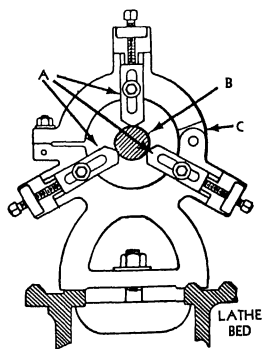

Figure 9-23.—Center rest.
The center rest is clamped in the desired position on the bed on which it is properly aligned by the ways, as illustrated in figure 9-23. The jaws (A) must be carefully adjusted and lubricated to allow the work (B) to turn freely and at the same time keep it accurately centered on the axis of the lathe. The top half of the frame is hinged (C) for easy positioning without removing the work from the centers or changing the position of the jaws. To set up a center rest, turn a short piece of stock to the same diameter as the work to be supported. Adjust the jaws to bear evenly on the stock, then chuck the actual workpiece and move the rest to the desired location on the lathe bed.